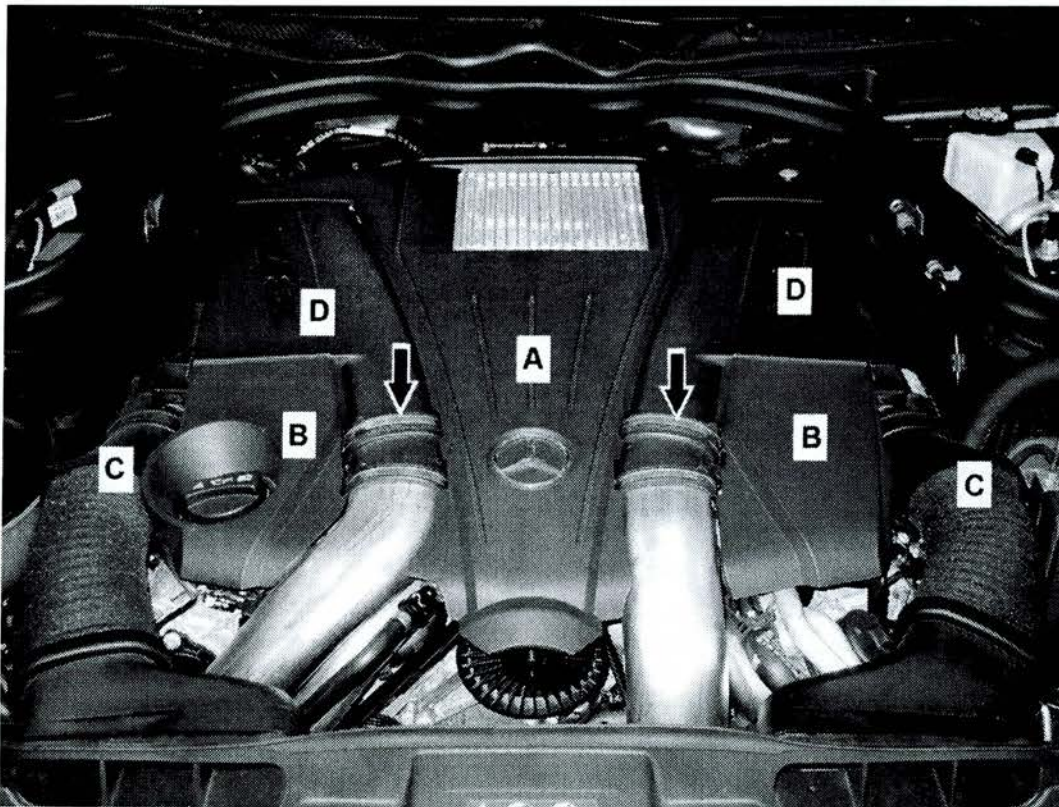

Figure 1 (shown on engine 278)
- Pull up on engine covers (A, B, Figure 1) to unclip from engine mounting points then remove.
- Disconnect air intake duct (C) from air cleaner (D).
- Loosen hose clamps (arrows) then disconnect charge air ducts from air cleaner (D).
- Pull up on air cleaner (D) to unclip from engine mounting points and place to one side.